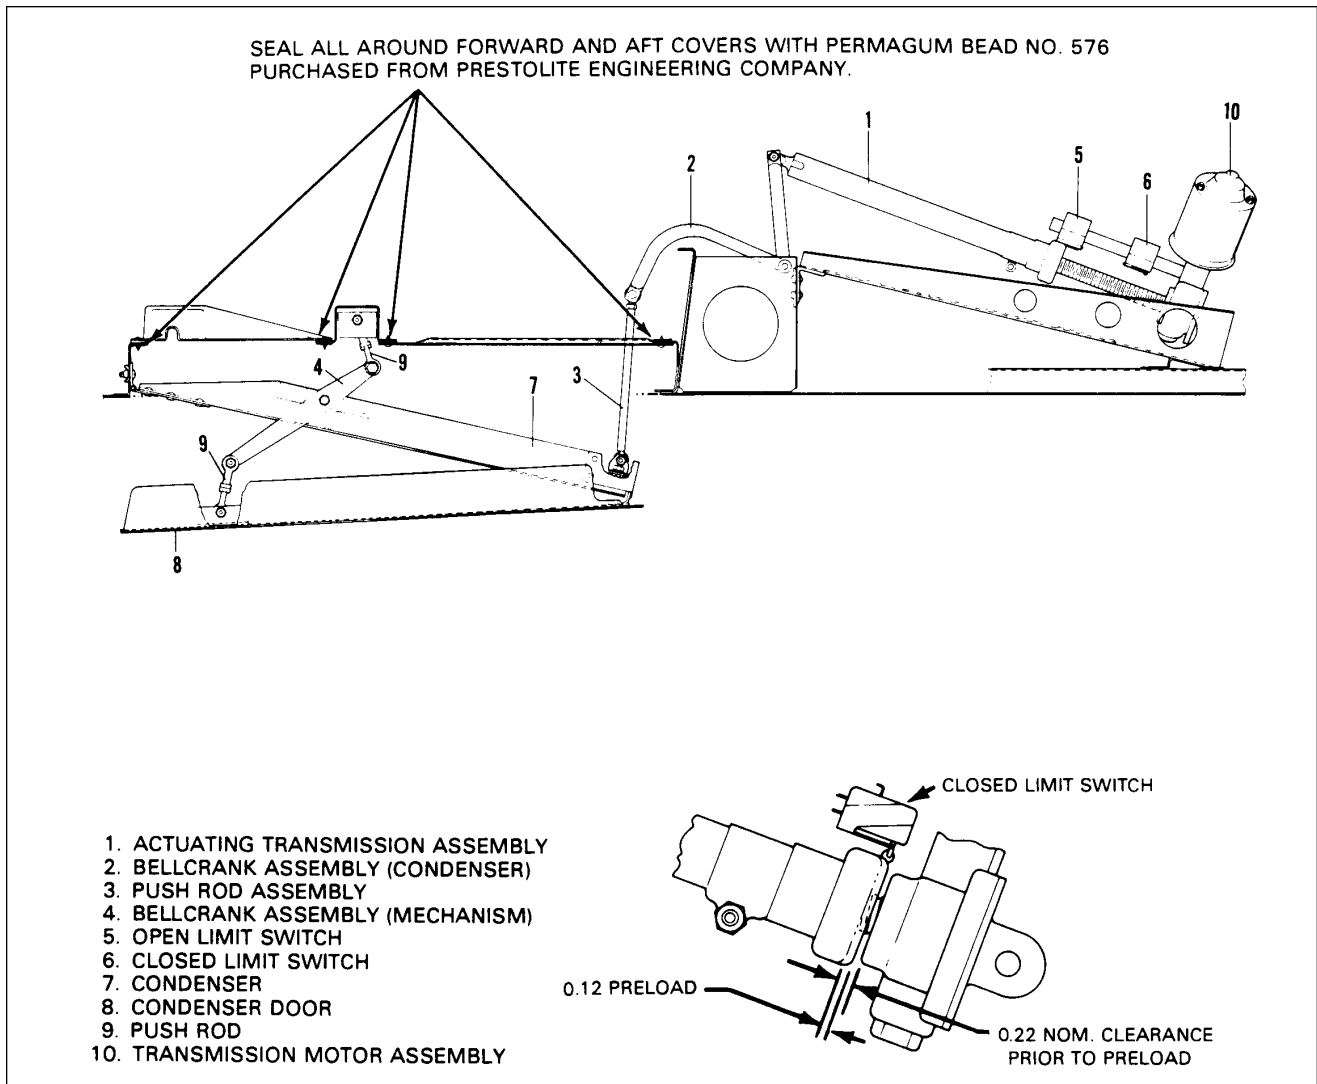

Figure 14-11. Condenser Air Scoop Installation
- f. Seal around forward cover panel (and aft cover panel if removed) with Permagum Bead no. 576 purchased from Prestolite Engineering Company. (See Figure 14-11.)
The actuator is on a bracket mounted between two bulkheads in tail cone. It is coupled to the condenser assembly through a bellcrank mounted to a bracket on bulkhead aft of condenser. Actuator travel is controlled by two limit switches. Both up and down switches are on the actuator. Refer to Figure 14-11 for switch locations.
### 14-32. CONDENSER DOOR ASSEMBLY RIGGING INSTRUCTIONS. (Refer to Figure 14-11.)
- c. Fully close door and adjust CLOSED limit switch so actuator travels an additional 0.12 inch with door fully closed, (required to pre-load mechanism). (Refer to Figure 14-11.)